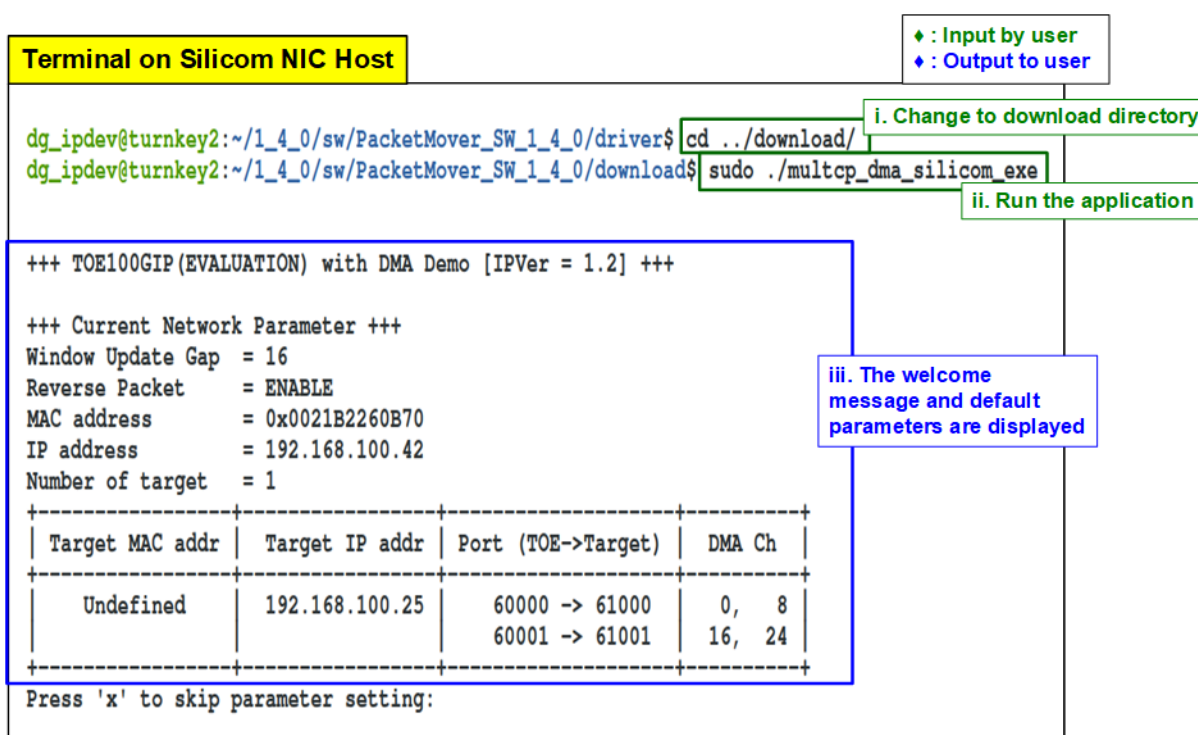

Figure 2-5 Run the demo application on Silicom NIC Host
5) Run the demo application “multcp_dma_silicom_exe” on the Silicom NIC Host, as shown in Figure 2-5.